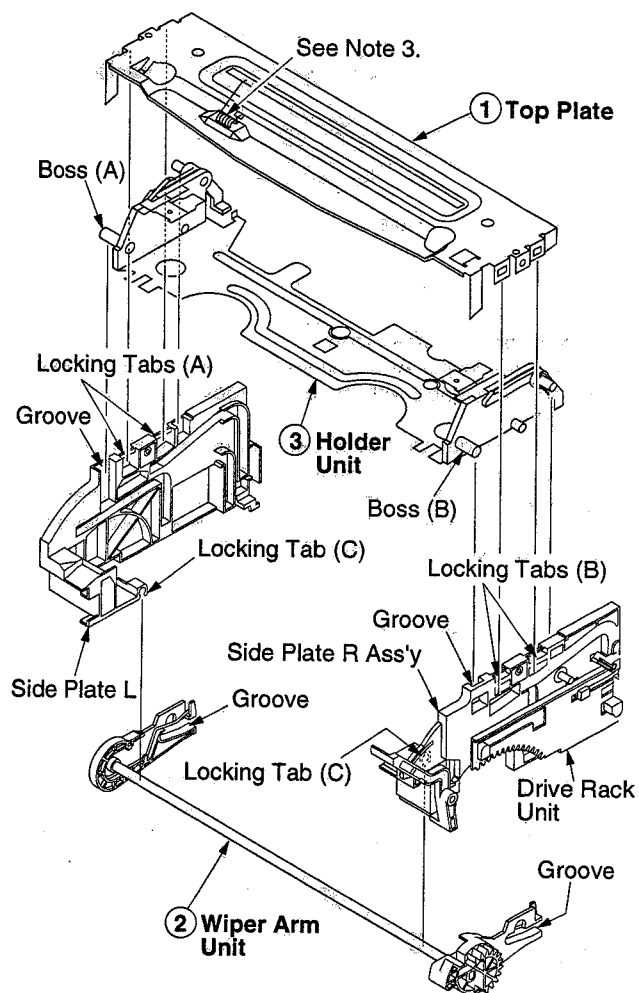

Fig. K1-1
- 2) Insert Holder Unit boss (A) and (B) into the grooves (See Fig. K1-1 on previous page).